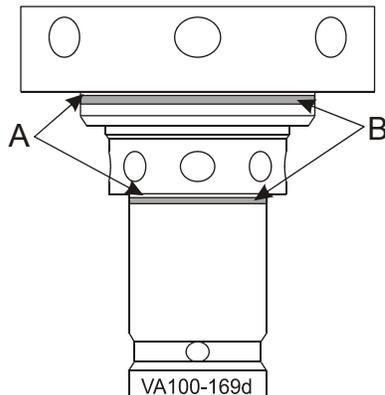

Figure 38 - Assembly
3. Screw the upper stem in until the scribe line (Figure 38, item A) within the etch mark adjustment zone (item B) aligns with the bottom of the adjustment sleeve. This is the factory-set lower seat clean position. See “Seat Cleaning Adjustment” on page 25 for instructions on modifying the seat clean movement.